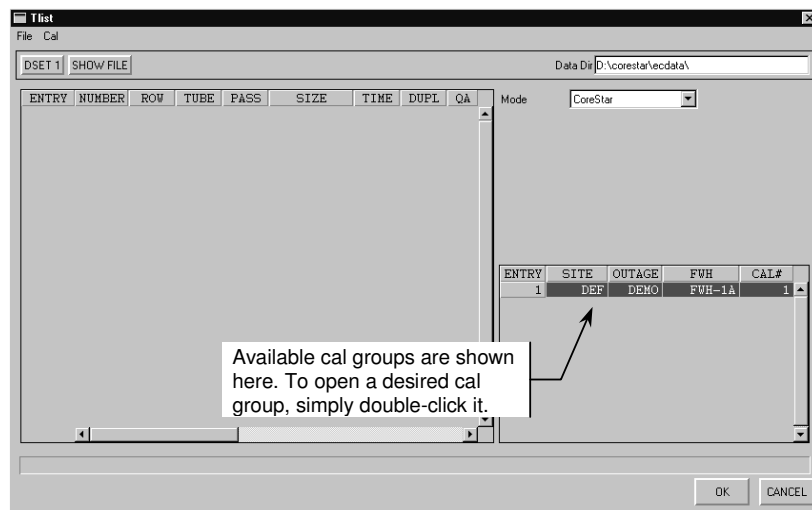

Figure 3-48. TLIST Dialog after Completing the Cal Information Dialog
After clicking **OK** on the **Cal Information** dialog, the **TLIST** dialog will display the available cal groups based on the entries in the **Cal Information** dialog. To open a cal group, simply **double-click** the desired cal group from the list shown (see Figure 3-48). Only one (1) cal group is available in the example shown in the figure. If other cal groups were present, they would be listed as well.